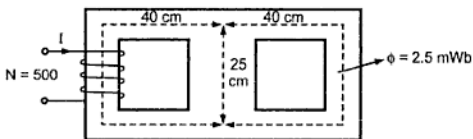

Fig. 3.30
►► **Example 3.3 :** A cast steel structure is made of a rod of square section $2.5 \text{ cm} \times 2.5 \text{ cm}$ as shown in the Fig. 3.30. What is the current that should be passed in a 500 turn coil on the left limb so that a flux of 2.5 mWb is made to pass in the right limb. Assume permeability as 750 and neglect leakage.
Solution : This is parallel magnetic circuit. Its electrical equivalent is shown in the Fig. 3.30 (a).